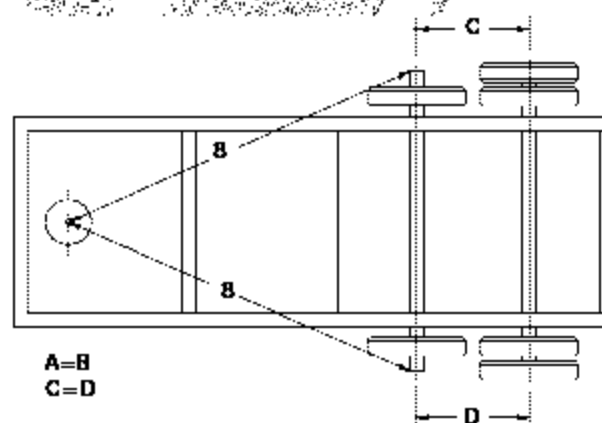

Figure 4 - Measuring distances for proper alignment
5. Complete an initial alignment check by measuring from the trailer's king pin to both ends of the axle spindle. The measurement should be an equal distance side to side (Figure 4 "A" & "B").
IMPORTANT: A maximum alignment tolerance of 1/16" is typically considered acceptable on additional axle(s) (Figure 4 "C" & "D").
IMPORTANT: A maximum alignment tolerance of 1/16" is typically considered acceptable on the additional axle(s) (Figure 4 "C" & "D").
suspension fore and aft until both ends of the axle are equal in distance from the king pin (Figure 4 "A" & "B").